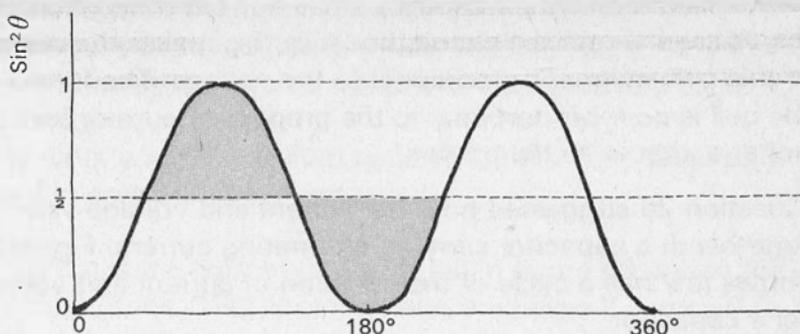

Figure 53
- d The alternating current from the a.c. mains varies as  $\sin \theta$ . Figure 53 is a sketch graph of  $\sin^2 \theta$ , over one cycle. The two lots of shaded areas are equal. What is the average value of  $\sin^2 \theta$  over one cycle?